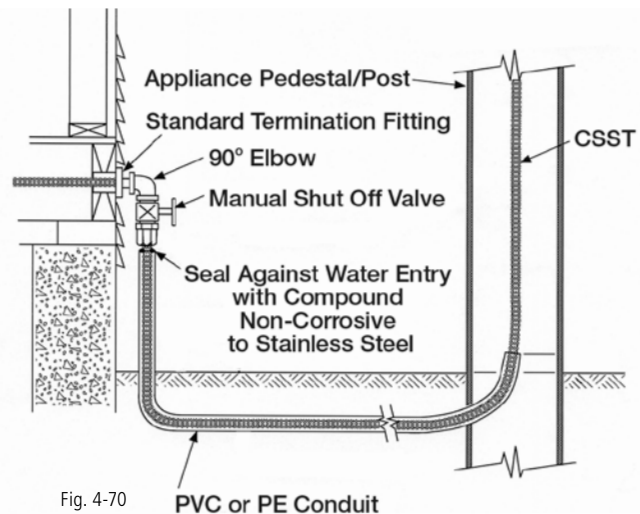

Fig. 4-70
- d) Yard Mounted Lights – Shall be connected to the Gastite/FlashShield+ CSST system as shown in Figure 4-70. All Gastite/FlashShield+ CSST installed below grade shall be installed in accordance with Section 4.9.